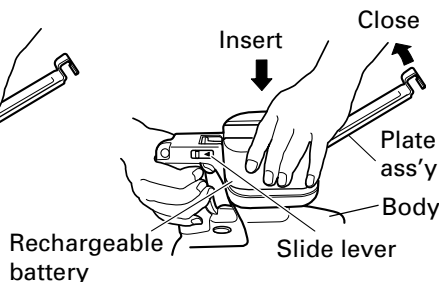

Fig. 5
2. Pay attention to the inserting direction of the battery, insert the battery, and close the plate assembly. When the plate assembly and the slide lever engage each other perfectly, there will be the sound of a click. (Fig. 5)